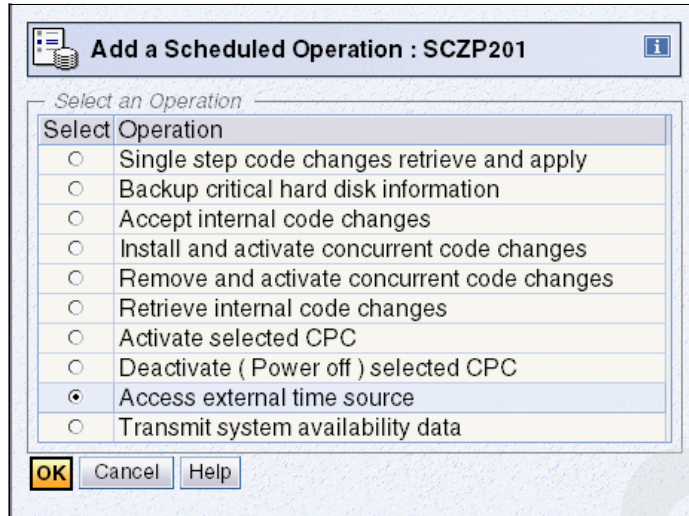

Figure 7-5 Add a Scheduled Operation
1. Select the Server as the target object, then select **Operational Customization** → **Customize Operational Customization** → **Options** → **New**. This opens the Add a Scheduled Operation dialog as shown in Figure 7-5 on page 310.